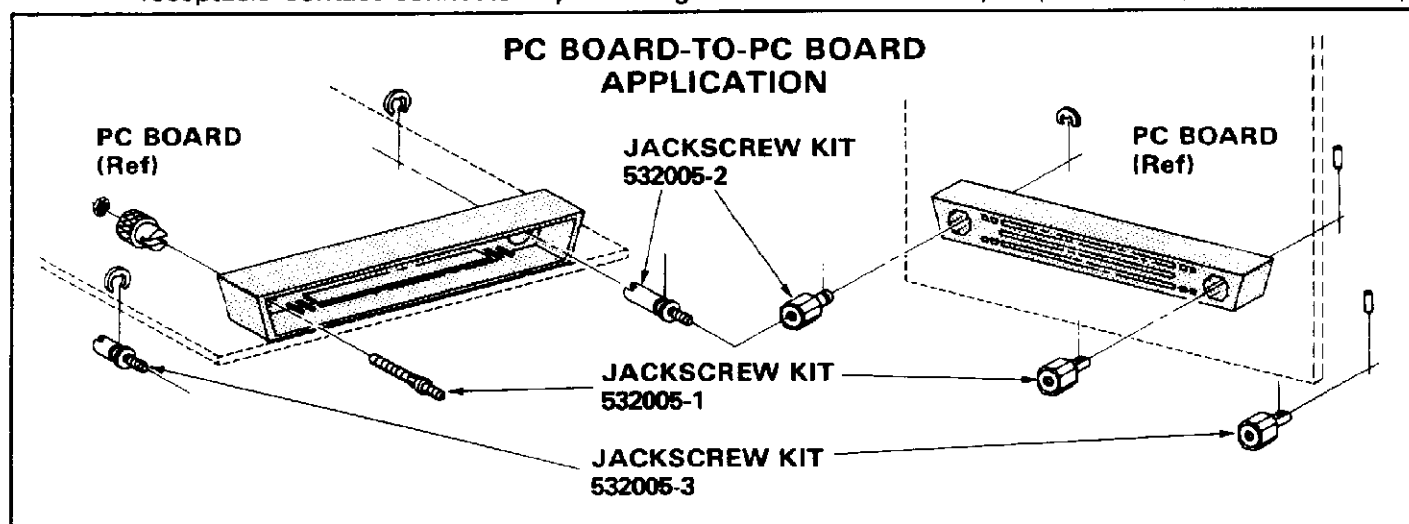

Fig. 6
Also available are combination jackscrew kits consisting of turnable male tips and fixed female tips. These kits are designed for AMP Miniature Box Connectors (Figure 6).
C. Board-to-Board Connector Application – 501 Series (Figure 6)